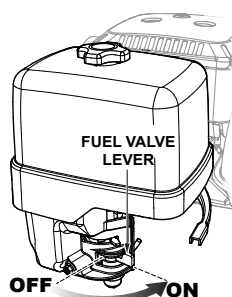

Figure 8. Fuel Shut-Off Lever
1. Move the fuel shut-off lever (Figure 8) to the ON position.